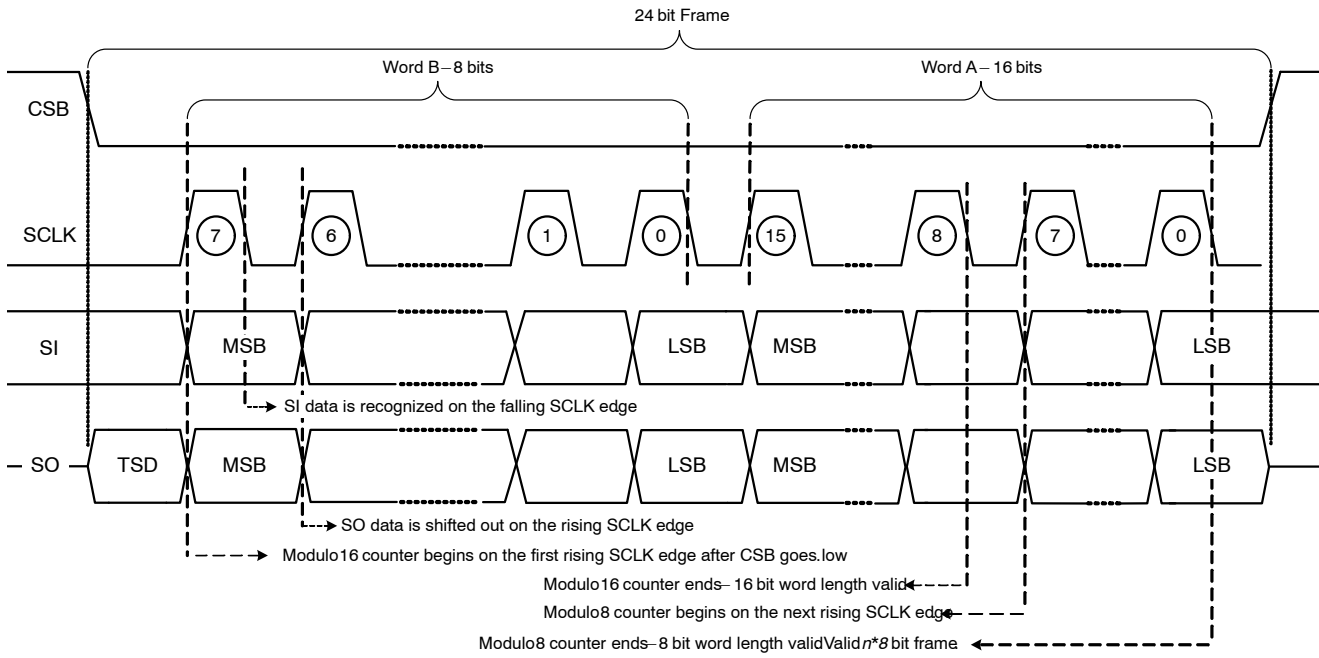

Figure 18. SPI Data Recognition and Frame Detection
Daisy chain communications between multiple of 8-bit SPI compatible IC's is possible by connection of the serial output pin (SO) to the input of the sequential IC (SI). The clock phase and clock polarity respect to the data must be the same for all the devices on the chain. Figure 17 illustrates the hardware configuration of NCV7718 daisy chained with a  $n \times 8$  bit (ie  $n = 2$ ; 16 bit) SPI device. The progression of data from the MCU through the sequential devices is also shown. Strict adherence to the frame format illustrated in Figure 18 is required for the proper serial daisy chain operations.